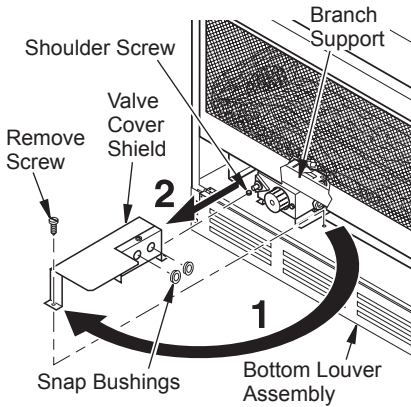

Figure 13 - Removing Valve Cover Shield
1. Open bottom louver assembly by swinging the assembly down (see Figure 13, page 13).
2. Using short Phillips screwdriver, remove the screw under the center of the branch support. Rotate valve cover shield clockwise and slide out. **IMPORTANT:** Do not remove shoulder screw on the left side of valve cover shield. Slide the valve cover shield off of the shoulder screw (see Figure 13, page 13).
8. Reinstall upper louver assembly and hood if previously removed, (see Figure 13, page 12). Close lower louver door.